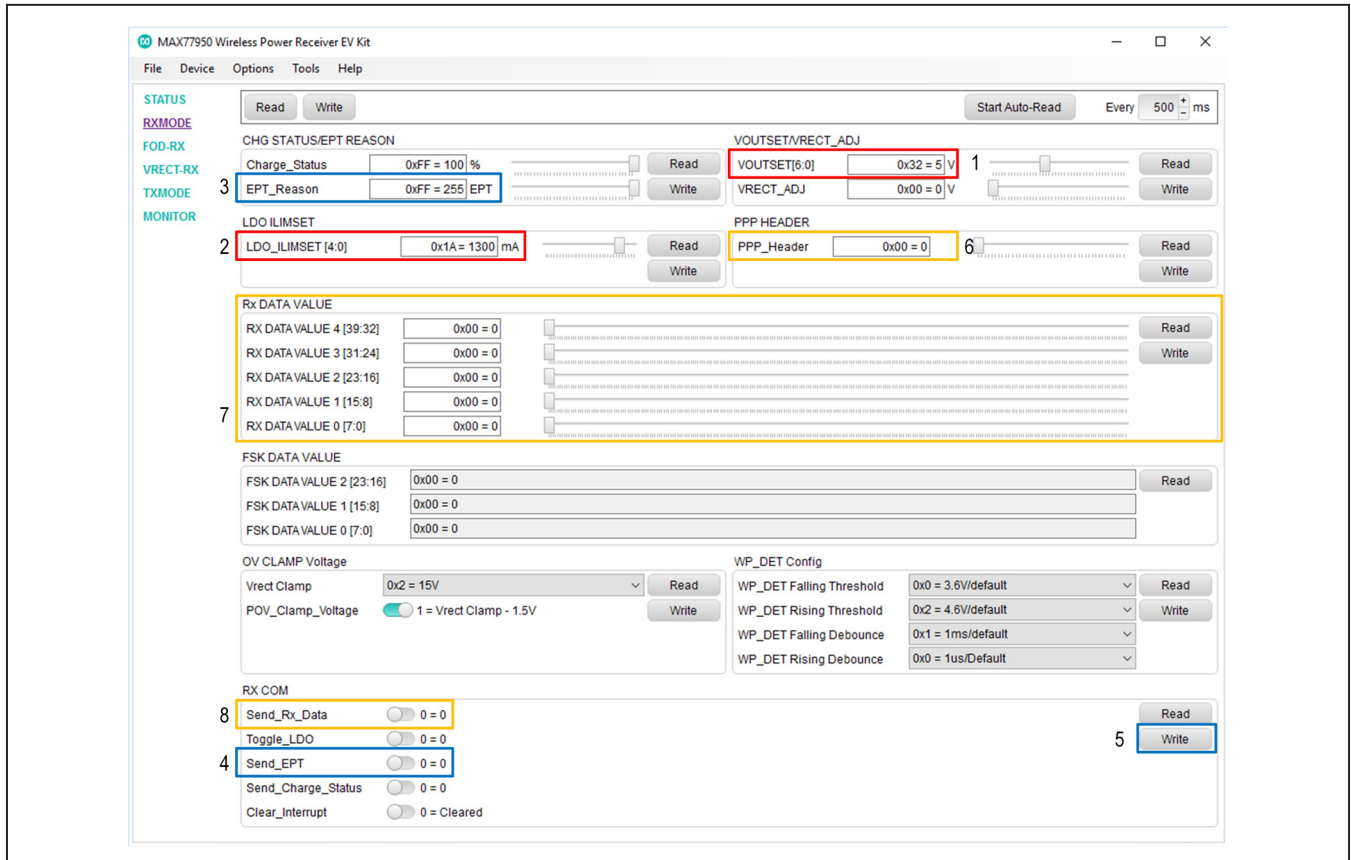

Figure 3. MAX77950 EV Kit GUI (RXMODE Tab)
- The LDO output voltage (V_{OUTSET}) and the LDO current limit (LDO_ILIMITSET) can be changed by the user. As seen in box #1 in Figure 3, the default value of V_{OUT} is 5V.
- The end-power-transfer (EPT) packet can be sent manually by the GUI along with the reason for EPT. The reason for EPT must be set before sending the EPT packet (Figure 3).